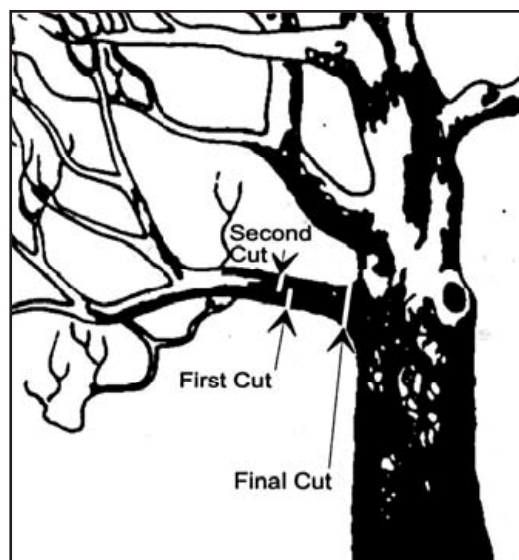

Figure 6.9 Proper Method of Pruning
- Prior to construction activities, prune low hanging branches that may be damaged by equipment. To avoid tearing the bark from the tree while pruning, remove large branches with a stub-cut method. Figure 6.9 illustrates correct methods of pruning.